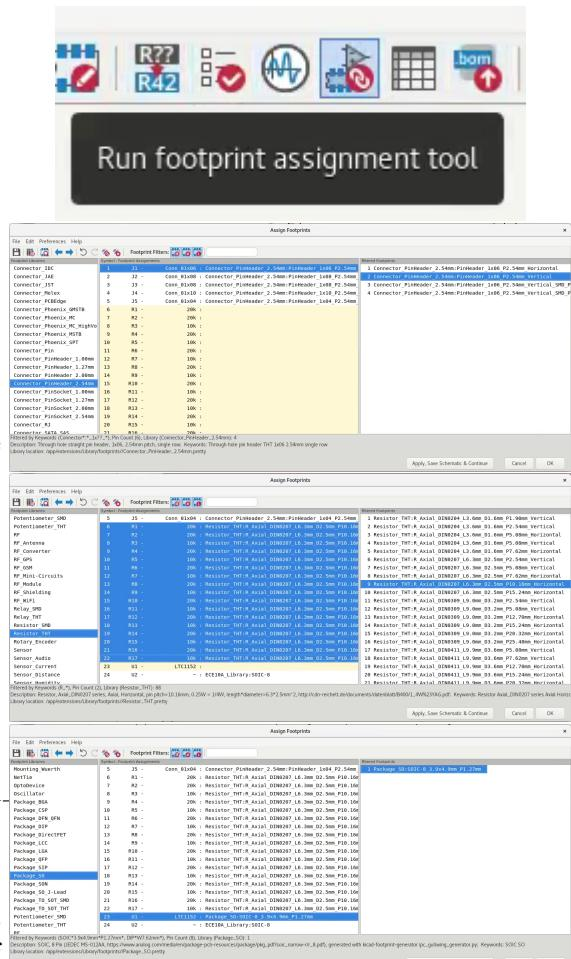

Figure 49: Connecting footprints to symbols in IC.
- Attach footprints to every component in the circuit. For the connectors and resistors, add the filters to restrict it by the filter from the symbol, filtered by the selected library, and filter by pin count. Filtering by pin count is not always helpful and sometimes inhibits footprint selection, but for fully populated symbols, like the ones in this lab, it is helpful to have on. For the connectors, navigate to the library “Connector.PinHeader.2.54mm” and chose the through hole (the footprint NOT labelled SMD) vertical pinheader that matches the pin count of the connector (There is an error in the figure as originally there was a 4 position header for the 5 position top header, so choose the relevant 5 position header, which you will see in the following figures but it is just one additional connection that will be made and all the positioning and other connection information is accurate). A good resistor footprint is “R_Axial.DIN0207.L6.3mm.D2.5mm.P10.16mm” which leaves a good amount of room for comfortable soldering of 1/4W resistors while not oversizing the layout (The most important part is the P10.16mm.Horizontal, which refers to the pitch of the pads and the orientation of mounting). Lastly, use the stock footprint in the Package_SO to add a footprint to the LTC1152 Figure 49: Connecting footprints to symbols in IC. You may note that the MCP602 does not have a value here, which can be added in the symbol. These are seen in Figure 49.